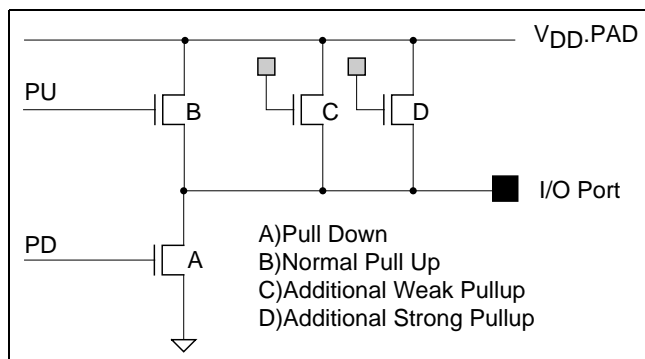

**Figure 4. Programmable I/O Port**
Each signal line in the Switch Matrix is connected to a programmable I/O Port. The functional attributes of individual I/O Ports can be programmed independently. The I/O Port attributes include its signal direction (in, out or bidirectional), data flow mode (flow-through, registered or latched), and pull-up current. Figure 4 shows the structure of the programmable I/O Port. The sources for the four control signals: clock (CLK), clock enable (CKE), input enable (IE), and output enable (OE) are also programmable and are described later in the section "I/O Control Signals."